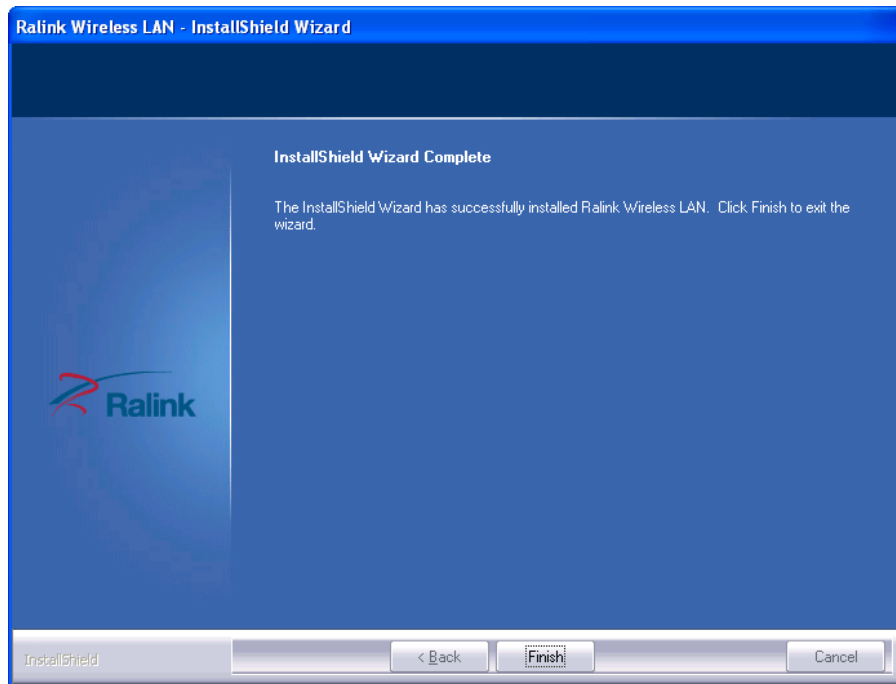

Figure 5-39: Installation Complete
Step 13: When the driver installation is complete, the screen in **Figure 5-39** appears.